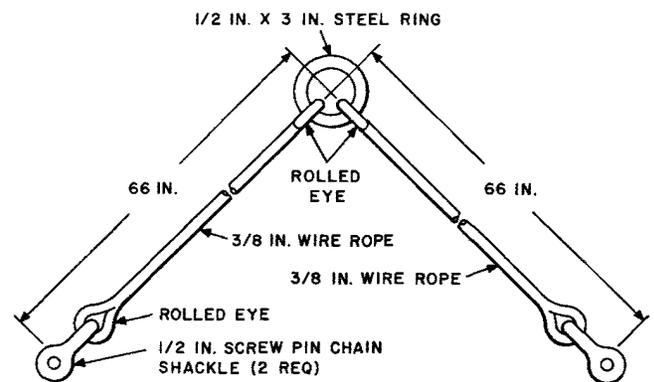
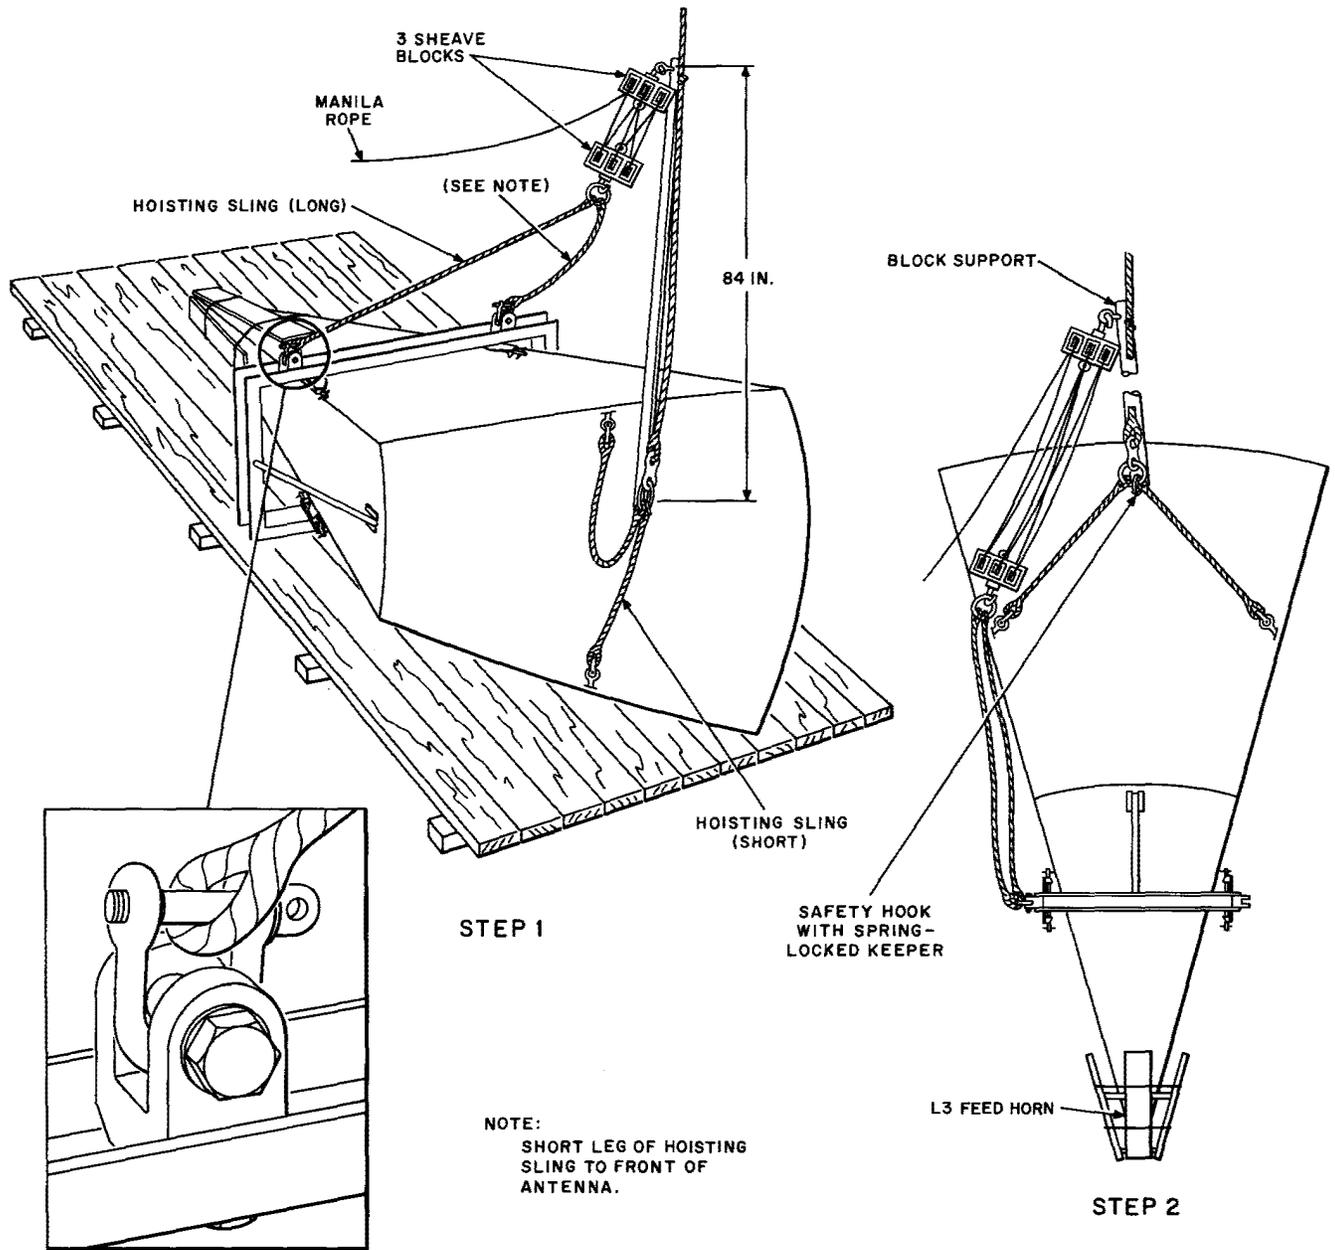

Fig. 1—Hoisting Sling (Short)
Fig. 4—Raising the L9 or L14 Antenna
(b) Hoisting sling as shown in Fig. 1, or equivalent.
**2.04 Raising the L8 Antenna:** The L8 antenna is assembled front down and is raised from this position as follows: Attach the hoisting sling (Fig. 1) to the load line from the derrick atop the tower. Connect the ends of the sling to the two eyebolts located near the center of the sides of the antenna reflector. Attach guide lines to the ends of the sling to control the load during hoisting. Raise the antenna to a vertical position, and hoist to the top of the tower.
lies on the shipping base (see Fig. 4). Place a 3/4-inch bolt in each beam jaw and fasten with the hex nuts provided. Raise the antenna using the following procedure:
- (1) Attach the short hoisting sling (Fig. 1) to the load line from the derrick atop the tower, and connect the ends to the eyebolts located near the center of the sides of the antenna reflector. Attach guide lines to the ends of the sling for control of the load during hoisting and to allow the antenna to be pulled to one side if necessary to clear intermediate guy wires on guyed towers. Attach the block support, per Fig. 4, to the load line by engaging the load line in the open ring on the upper end. Attach a 3-sheave block and fall to the eyebolt opposite the open ring. Push the support, with tackle attached, upward on the load line until the safety hook on the lower end can be engaged in the sling ring. The safety hook shall be equipped with a spring-loaded keeper to ensure positive engagement.